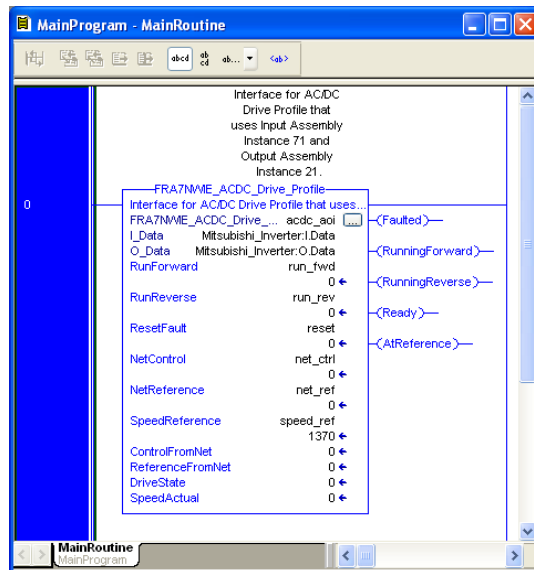

Figure 96: Configure AC/DC Drive Profile AOI
- 10) Edit the add-on instruction according to Figure 96.